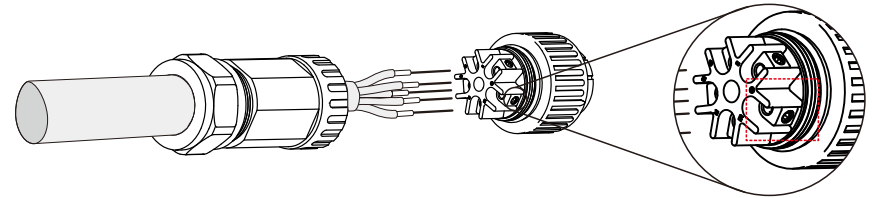

Figure 5.22 Connected cable
A) Stripped the insulation sleeve of cable for 70mm, so that bared copper-cored connector reaches for 9mm. Cable through nut and sleeve of socket element, insert corresponding terminals and tighten with allen wrench (see figure 5.22). Torque is 1.8-2.0Nm.
Tighten cable with 3.0 mm allen wrench (focus in dotted box, see figure 5.22). Allen screw is easy to drop off, don't screw out completely.